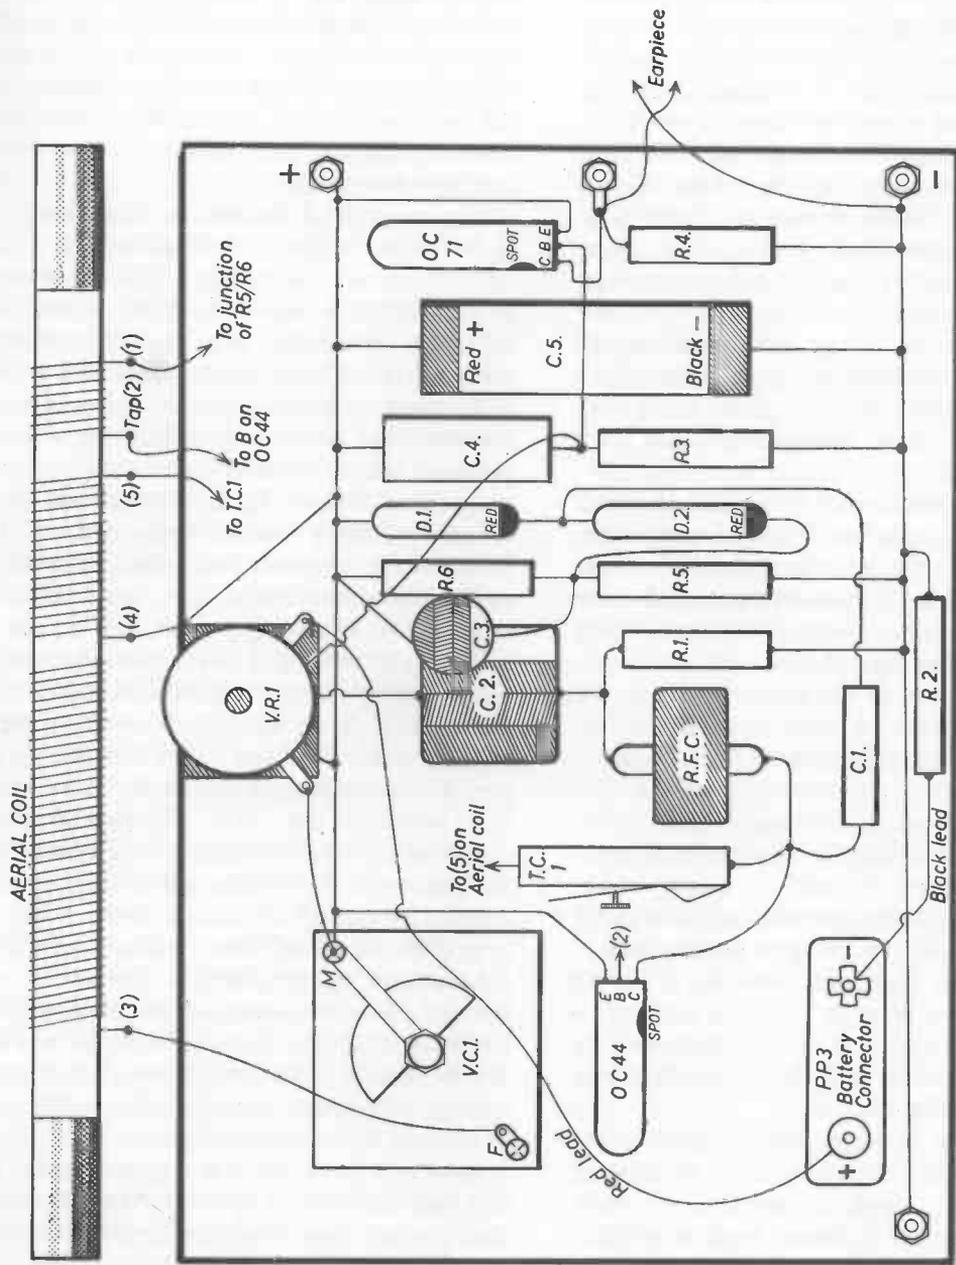

Fig. 7 Wiring diagram of the two-transistor pocket receiver
1. Mark out and cut out Paxolin panel as Fig. 7 (see text).
4. Fix three 1½-in. long 4- or 6-b.a. brass bolts at top right, bottom left and bottom right corners of the panel looking at it from the rear, i.e., in accordance with Fig. 7.
5. Fix solder tag by means of a small 6-b.a. bolt centrally between the two long bolts on the right of the panel (see Fig. 7).
The top line as at (i) above is positive and the top right bolt should be marked + with a nail or screwdriver. Similarly that at the bottom right should be marked — as the lower line is negative. (Fig. 7 will make this clear).